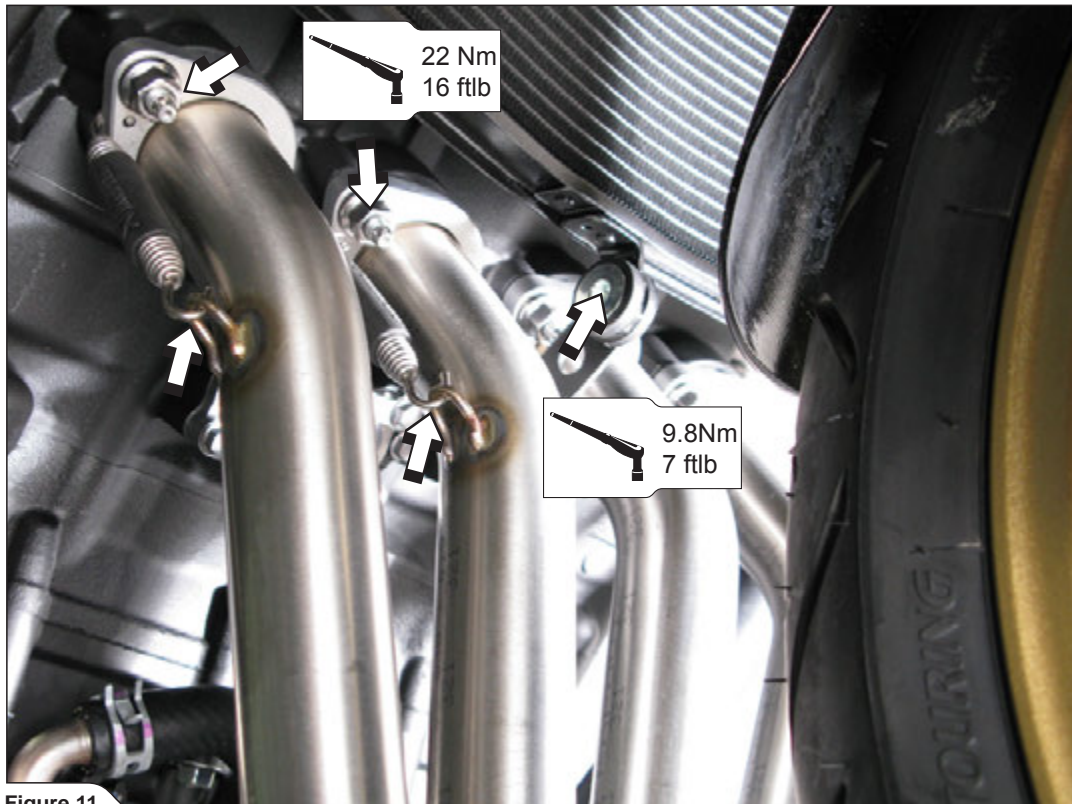

Figure 11
3. **For Akrapovič Racing only:** insert the header tubes into the sleeves, attach all four springs and tighten the nuts to a specified torques. Reattach the cooler to the bracket (**Figure 11**).